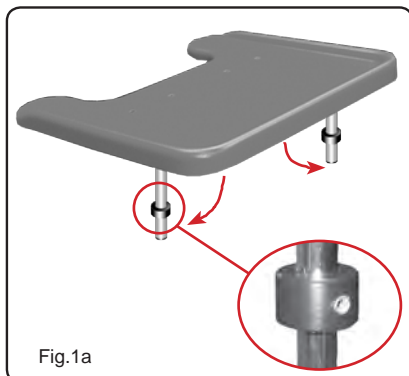

Fig.1a
- Release Wing Knobs on Dog Legs and allow them to swing down and make sure height locking collars are in place (Fig.1a).